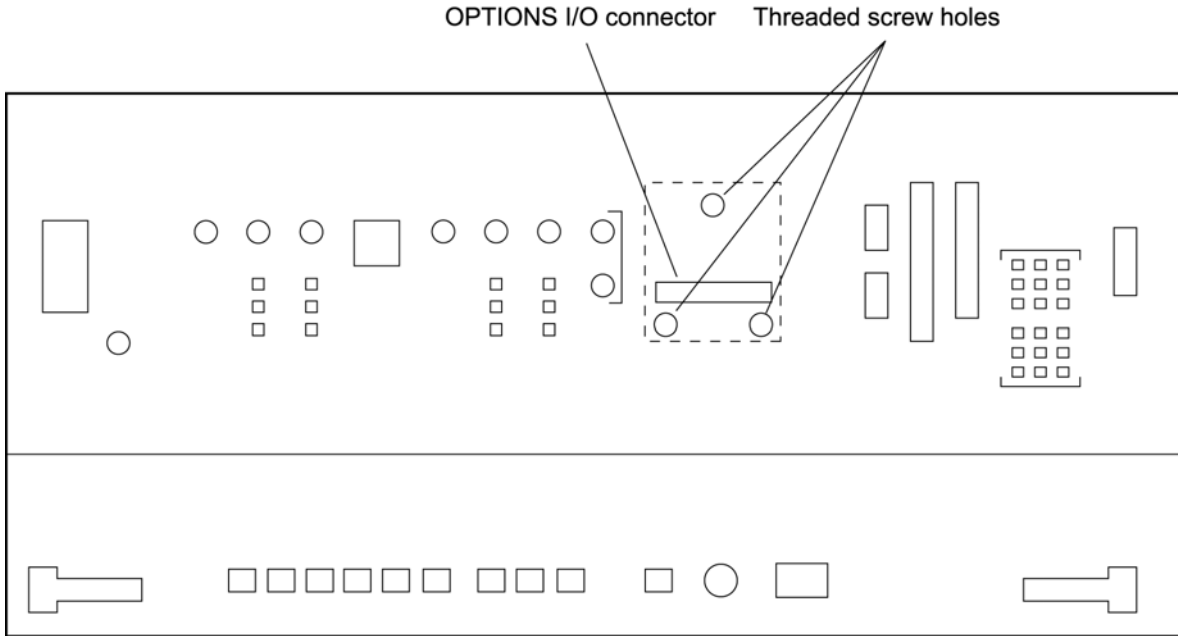

Figure 3-6. Location of the Options I/O Connector
2. Plug the module into the OPTIONS I/O connector on the connector panel (refer to Figure 3-6).